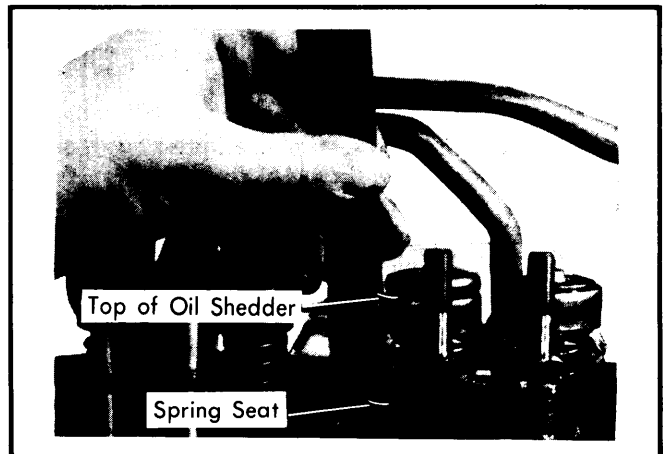

**Fig. 5 Upper Valve Train Components**
**Removal** — Remove rocker arm cover, spark plug, rocker arm and push rod on cylinder(s) to be serviced. Install air line adapter (J-23590) to spark plug port and apply compressed air to hold valves in place. Using a suitable tool (J-5892), compress valve spring and remove valve locks, cap, oil shedder, valve spring and damper. Remove and discard oil seal. See Fig. 5.